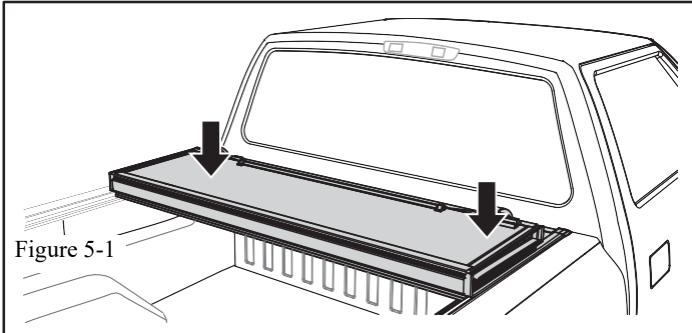

Figure 5-1
- (a) Set the cover in the folded position on the bed cover rails toward the front of the bed at the cab (Figure 5-1).